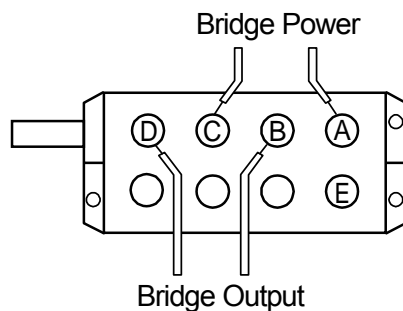

Fig.4-2 Wire Connection on Bridge Box
- b. This is a bridge for measuring strain. Various methods are used for connecting strain gauges. For details on these connecting methods, refer to “Examples of Strain Gauge Bridge Configuration” on page 4-2. When using various types of transducers via the bridge box, make connections as shown in Fig. 4-2.